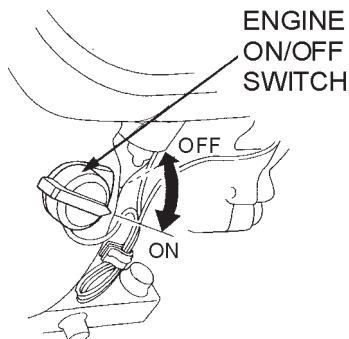

Figure 11. Engine ON/Off Switch
2. Place the **Engine ON/OFF switch** (Figure 11) in the "ON" position.
2. Place the **Engine ON/OFF switch** (Figure 11) in the "OFF" position.